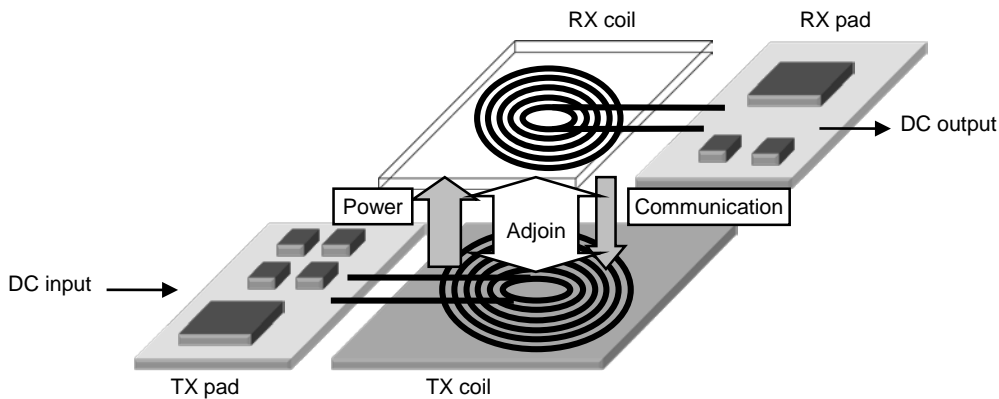

Figure 8.1 General outline of a wireless power system
Wireless power system consists of the first side (TX) which transmits power and the second side (RX) which receives power. Power is transmitted by adjoining coils included in the TX and RX and by sharing and combining their electromagnetic flux. The RX controls the transferred power by monitoring the received power and sending feedback signals to the TX. The TX controls the power by controlling its transmitted power according to the feedback signal which is received from the RX. A configuration example of a wireless power system is shown in Figure 8.1.